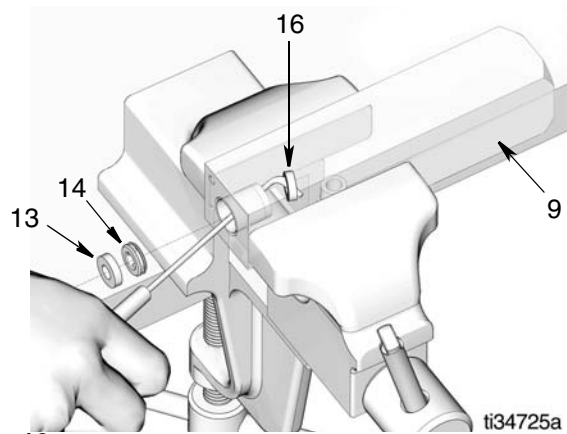

FIG. 10
16. Use a pick to remove packings (16 and 13) and inlet valve (14) from inside injector body (9) (FIG. 10).